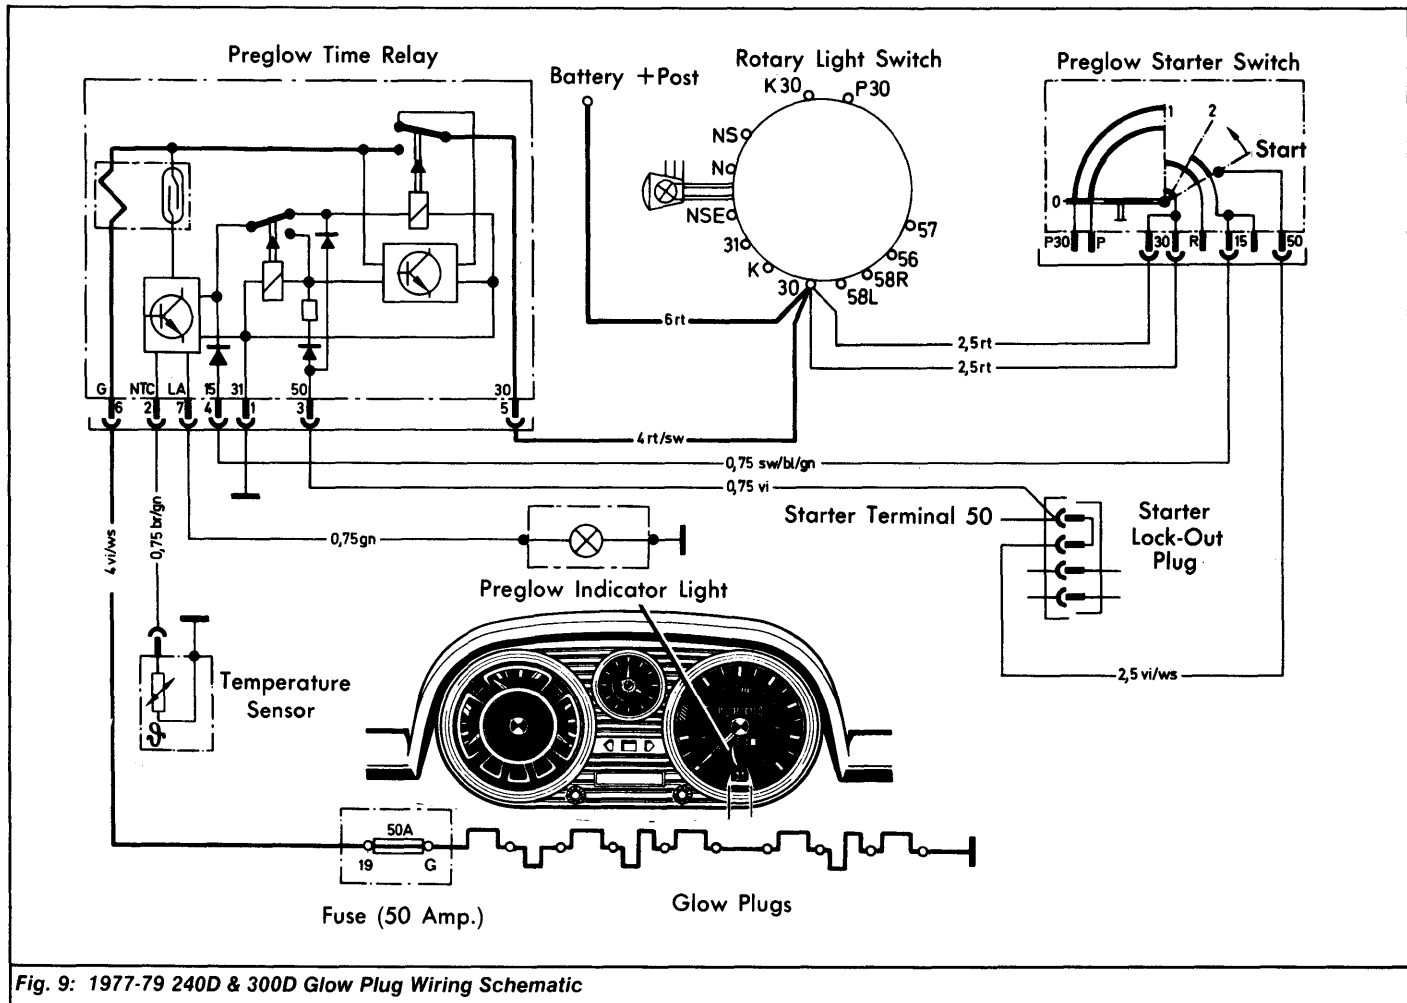

Fig. 9: 1977-79 240D & 300D Glow Plug Wiring Schematic
- 1977-79 240D & 300D** – 1) Glow plugs provide ignition during starting. Use dash-mounted indicator light to locate faulty glow plugs. See Fig. 9. To do so, hold starting switch key in pre-glow position "2".